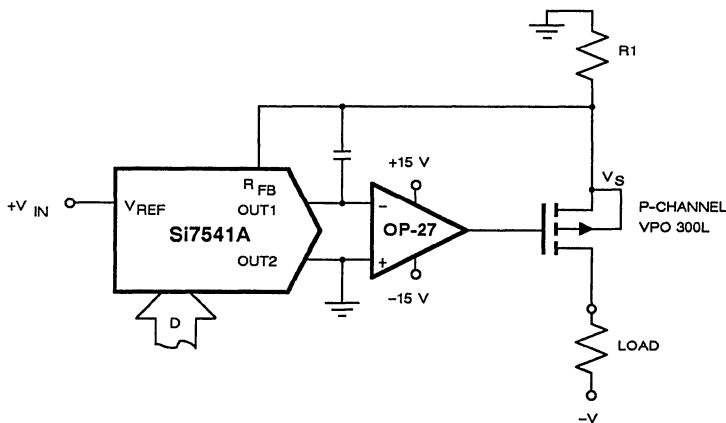

Figure 33. Programmable Current Source
**Programmable Current Source.** Figure 33 shows a circuit for a programmable current source which is virtually a mirror image of the current sink circuit.